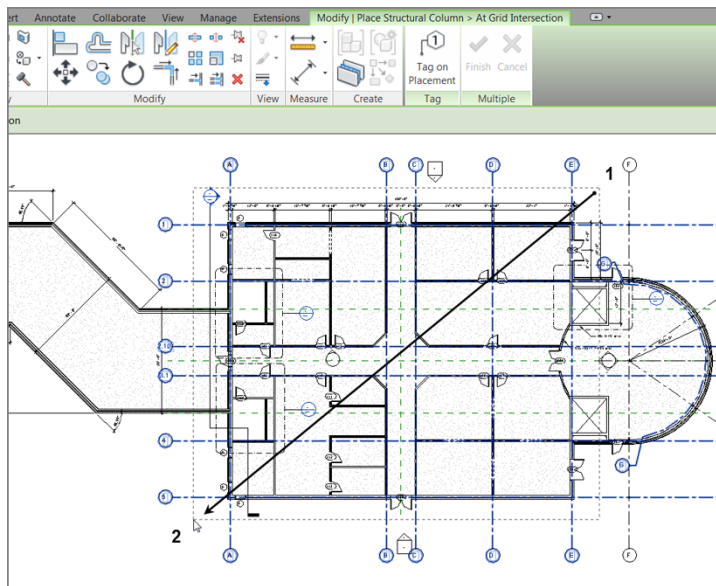

FIGURE 8.30: Picking a window where the columns will be placed
3. Pick a window around the rectangular portion of the east wing (from right to left), as shown in Figure 8.30.
4. The Modify | Place Structural Column > At Grid Intersection tab changes to allow you either to finish or cancel. After you have the window placed, click the Finish button on the Multiple panel, as shown at the top of Figure 8.30.